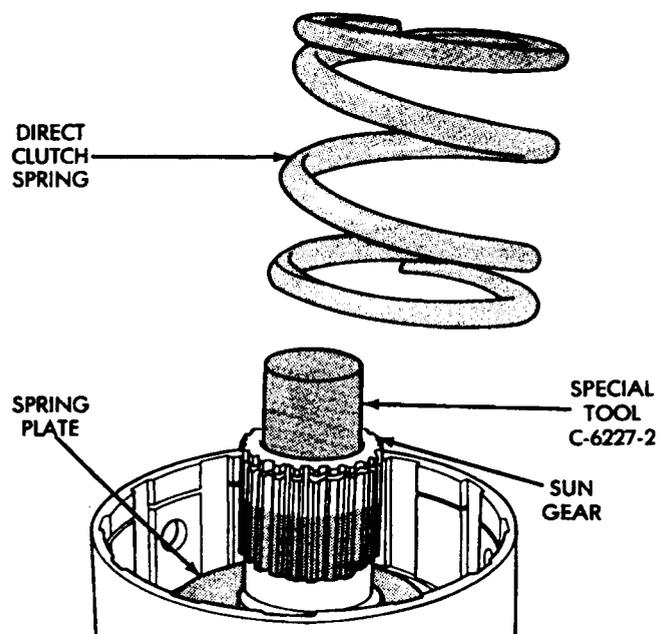

**Fig. 54 Sun Gear Installation**
(16) Install assembled sun gear, spring plate and thrust bearing (Fig. 54). Be sure sun gear and thrust bearing are fully seated before proceeding.